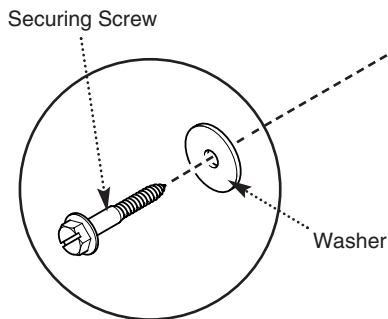

Fig. 24
3. Take the two steel washers and remaining screws. Using the previously drilled and plugged holes, secure the bottom of the boiler to the wall (Fig. 24).